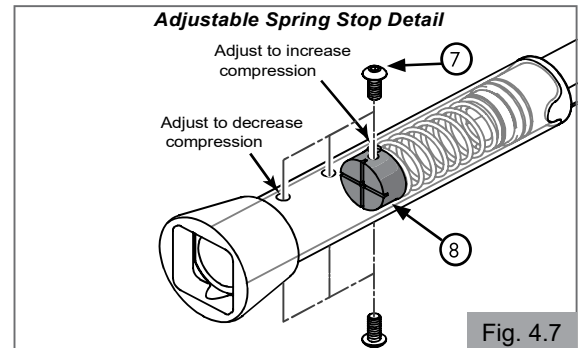

Fig. 4.7
For Folding Frame wheelchairs (Fig. 4.2 - Fig. 4.7)
- d. Tighten all six fasteners (9) to 7.8 Nm.
- a. Ensure the Power Assist Module is already removed from the Folding Axle Assembly (1).
- b. Grab the Folding Axle Assembly (1) and compress the larger tube toward the smaller tube until the Axle Adapter Receiver (1) is free of the Folding Axle Adapter (3).
- c. Pull the Folding Axle Assembly (1) toward the rear of the chair.
5. Removing the Folding Axle Adapter and hardware from Folding Axle Assembly (1):
- a. Remove hardware (2).
- b. Remove Folding Axle Adapters (3) and hardware (2) from Axle Plates (4).
6. Adjusting Folding Axle Spring Force (Fig. 4.7):
- a. Remove both screws (7) using 3mm allen wrench. Use screwdriver to keep Spring Stop (8) from falling out.
- b. To increase spring force move Spring Stop (8) to new hole location closer to center of assembly. Use screwdriver to align Spring Stop (8) with hardware (7).
- c. Attach both screws (7) to properly hold Spring Stop (8).
- d. Attach Folding Axle Assembly (1) onto chair to check spring force. Adjust as necessary.